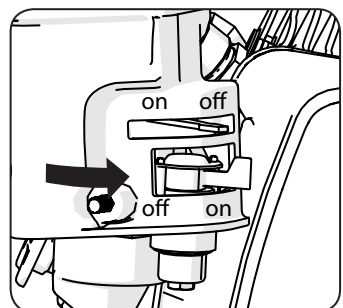

Fig 11
- Turn the fuel tap lever to the 'On' position. (Fig. 11)